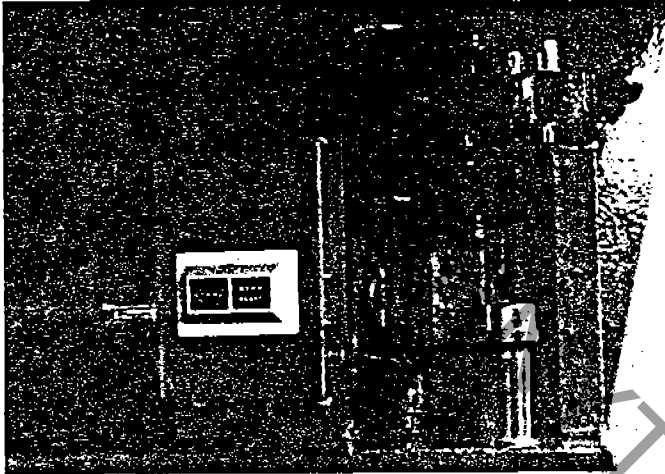

Fig. 8
- g. Check the hydraulic pump for the correct rotation. (Indicated by the arrow on the pump.) (Fig. 8)